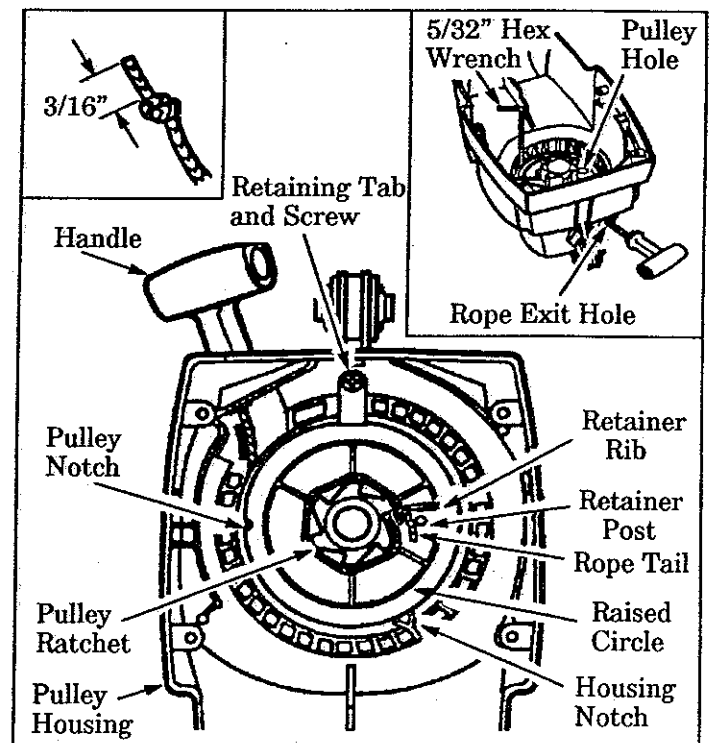

Figure 25
6. Untie Rope around the Pulley Ratchet (Figure 25) and pull the Rope out of the Pulley Housing.
7. Position the Pulley Housing as shown in Figure 25 . Hand turn the Pulley clockwise → as far as it will go. Then, turn the Pulley counterclockwise ← until the Pulley Notch is aligned with the Housing Notch. Figure 25 . Next, turn the Pulley one complete turn counterclockwise ← until the notches are aligned again.
8. Insert the small hex wrench into the hole formed by the Notches to hold the Pulley in position. Figure 25 (inset-upper right).
12. Insert one end of the Rope through the Handle and secure with a knot. Leave a 3/16" pigtail behind the knot. Figure 25 (inset-upper left).
13. Insert the other end of the Rope through the Rope Exit Hole into the inside of the Housing, into the Pulley and up through the Pulley Hole. See Figure 25 (inset-upper right).
14. Wrap Rope counterclockwise ← around the Pulley Ratchet and tuck loose end under Rope where it comes out of the Pulley Hole. Leave a 1/4 to 3/8 inch tail laying flat on top of the Pulley between the Retainer Rib and the Retainer Post as shown in Figure 25 . Pull firmly on the rope to tighten it against the Pulley Ratchet. The rope tail *must not* extend beyond the Raised Circle on the Pulley to prevent interference with the Retaining Tab. Figure 25 .